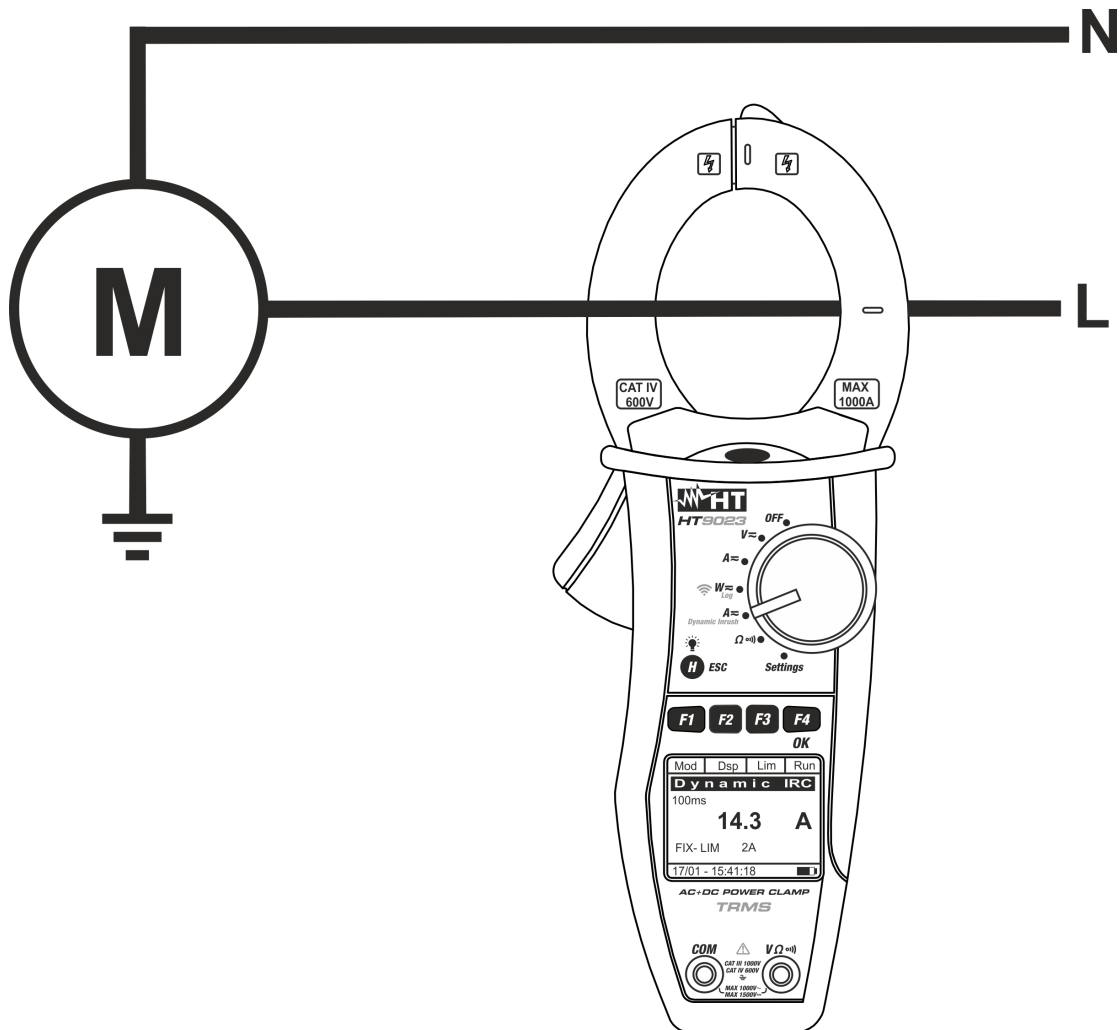

Fig. 11: Dynamic Inrush current measurement
7. Connect the cable to the middle of the clamp jaws, in order to get accurate measurements (see Fig. 11). Use the marks as a reference (see Fig. 2)